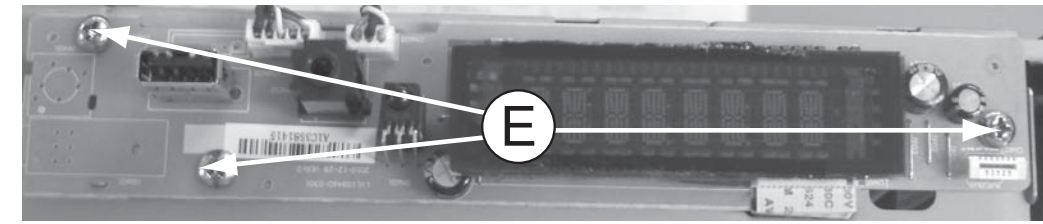

Figure 7
- 1) Loosen 3 screws "E" on the top of VFD board as shown in figure 7.